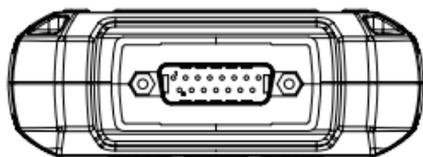

Figure 2.1.2
7. DB15 Male Connector: The connector is for you to connect the OBD-II diagnostic cable and battery test cable. (See Figure 2.1.2)